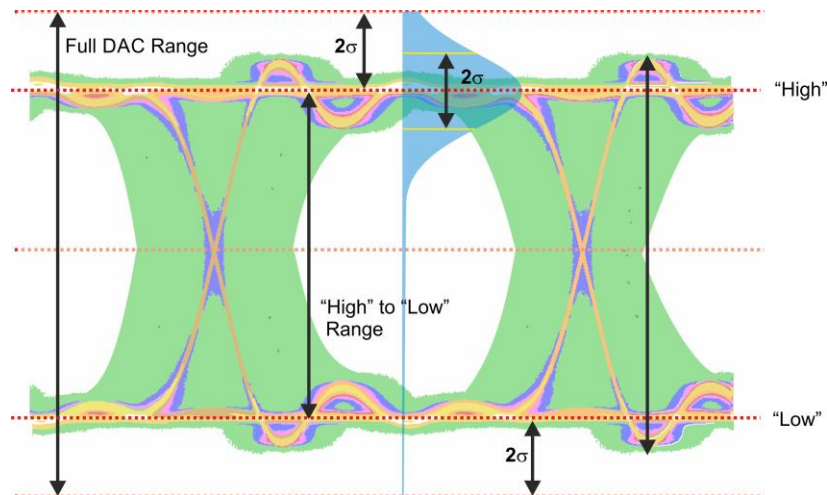

Figure 26: Clipping and noise amplitude
- Ampl(rms): Root-mean-square amplitude for noise is set as a percentage of the reference “low” to “high” excursion. Reference “low” and “high” amplitudes correspond to the final, steady level after a long run of consecutive “low” or “high” states. These levels are not influenced by any low-pass or de-emphasis filters applied to the waveform (see Figure 26), so it is used to establish an absolute reference for relative amplitudes.
- Crest Factor: This parameter is expressed in dB relative to the rms amplitude of the noise. If the combined waveform (signal + noise) goes beyond the valid lower and upper limits, samples are clipped to the corresponding limit. The upper limit can be calculated by adding the Nominal “high” value and an additional headroom resulting from the Ampl(rms) parameter corrected by the Crest Factor parameter. The lower limit can be symmetrically calculated in a similar way from the Nominal “low” level (see Figure 26).